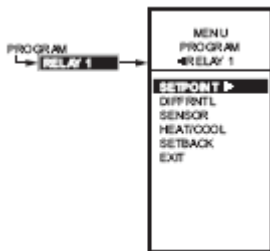

Fig. 2
2. Press the ► button to select RELAY 2 to view the parameters.(Fig. 2 shows RELAY 1.)